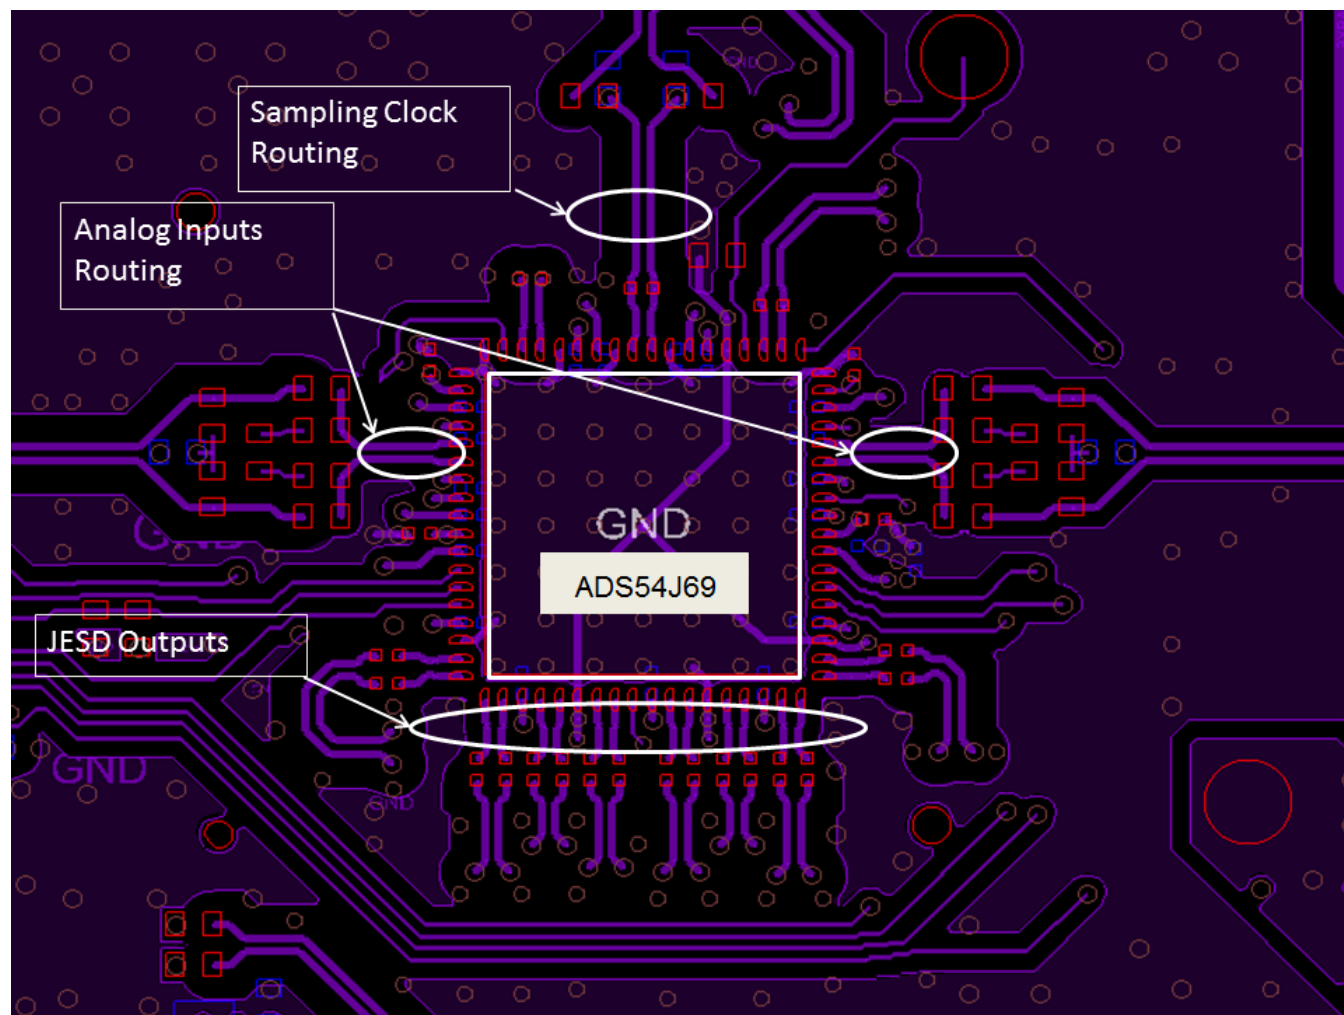

Figure 138. ADS54J69EVM layout
The device evaluation module (EVM) layout can be used as a reference layout to obtain the best performance. A layout diagram of the EVM top layer is provided in Figure 138. A complete layout of the EVM is available from the ADS54J69EVM folder. Some important points to remember during board layout are:
- Analog inputs are located on opposite sides of the device pinout to ensure minimum crosstalk on the package level. To minimize crosstalk onboard, the analog inputs must exit the pinout in opposite directions, as illustrated in the reference layout of Figure 138 as much as possible.
- In the device pinout, the sampling clock is located on a side perpendicular to the analog inputs in order to minimize coupling between them. This configuration is also maintained on the reference layout of Figure 138 as much as possible.